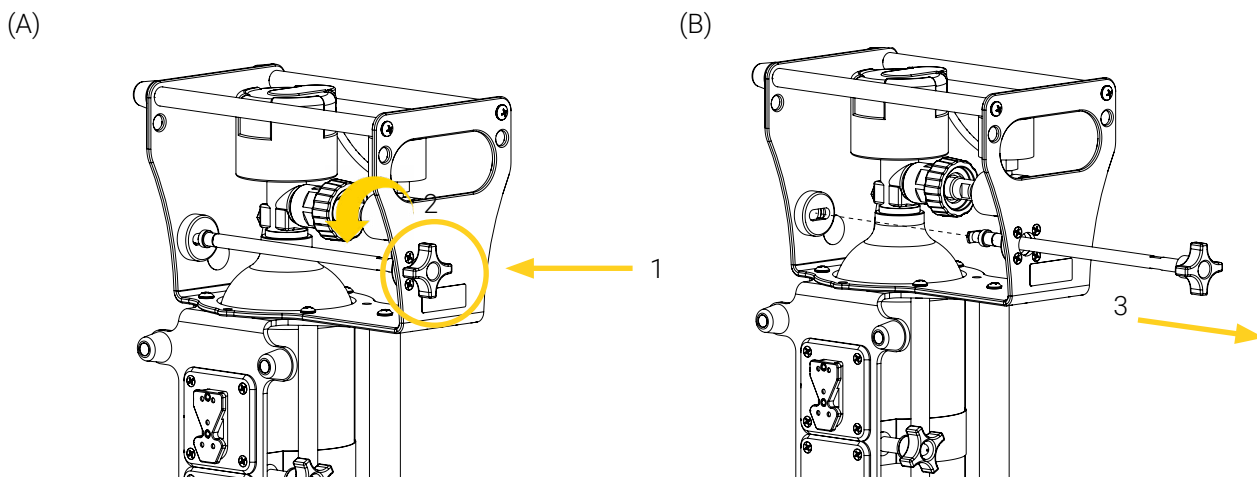

Figure 12: Unlocking the mounting bracket
4. Push on and hold down the knob of the locking rod, rotate it a ¼ turn counterclockwise to unlock the mounting bracket (Figure 12 A), then pull out the rod (Figure 12 B).